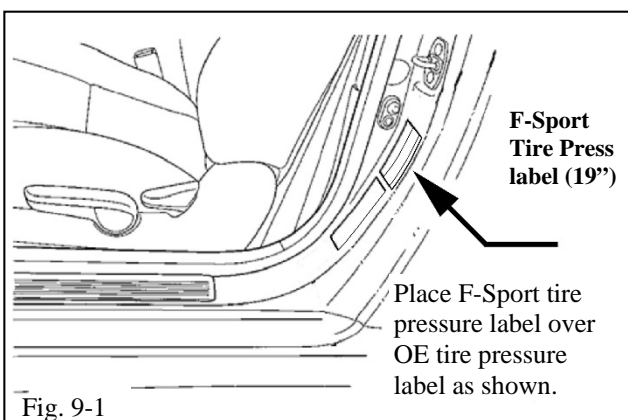

Fig. 9-1
- (b) Affix the F-Sport 19-inch tire pressure label (MDC P/N **00602-30130**) directly over the OE tire pressure label (Fig. 9-1).